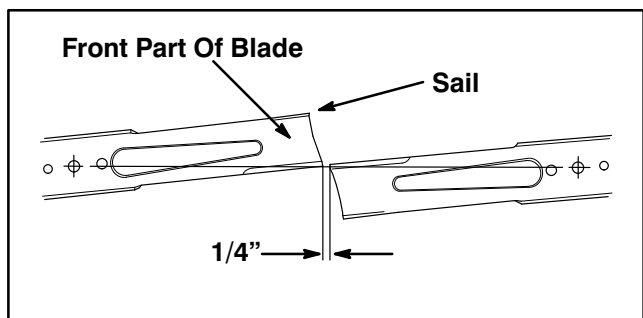

Figure 30
E. Rotate adjacent blades until cutting edge tips are aligned directly across from each other as shown in figure 30.